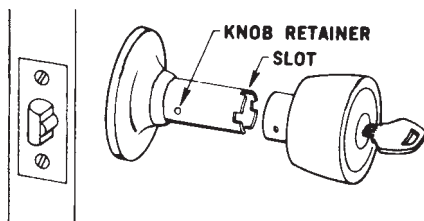

Figure 13.19 Pull knob off spindle.
3. Pull the knob off the spindle (Fig. 13.19). Rotate the knob so the bitting on the key will be *up*.